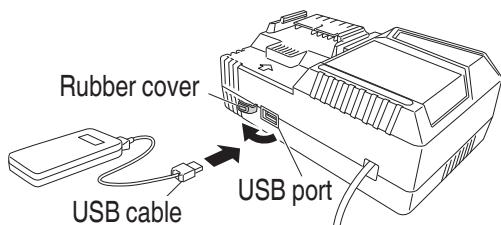

Fig. 50
(2) Connect the USB cable. (**Fig. 50**)